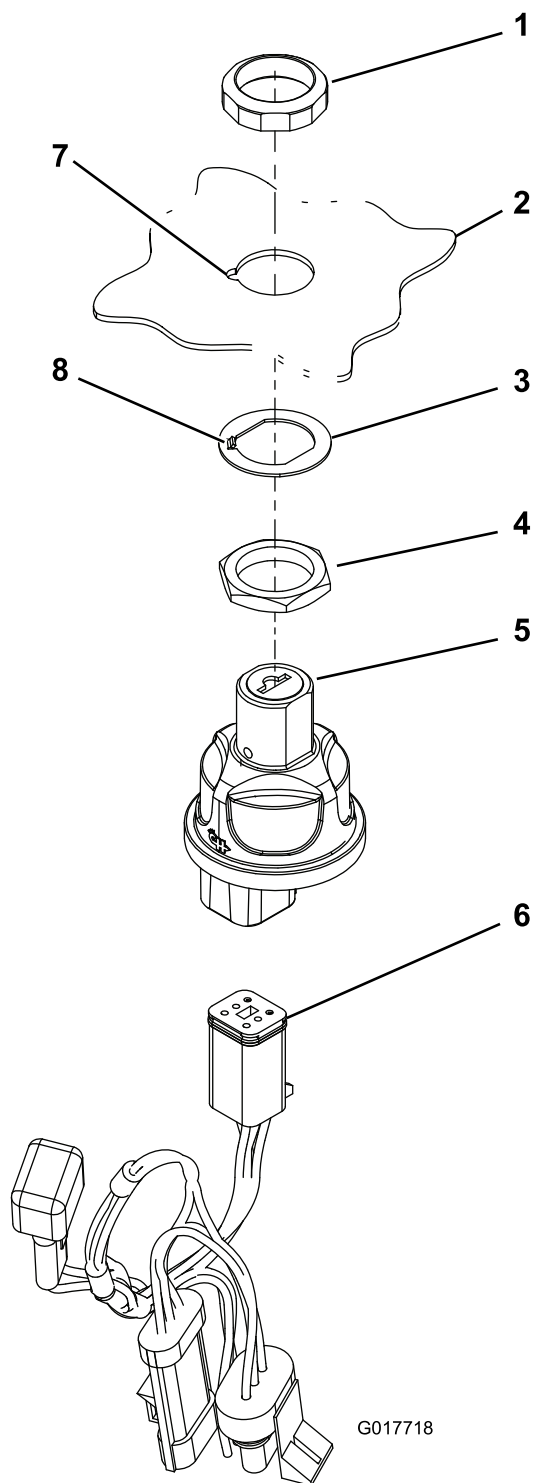

Figure 2
1. Fasteners (5)
8. Install the new ignition switch assembly as shown in Figure 2.
Note: Ensure that you align the tab on the washer with the slot in the control panel (Figure 2).
10. Connect the new ignition switch wiring harness connector to the new ignition switch (Figure 2).
9. Connect the new ignition switch wiring harness (Figure 2) to the connector on the existing wiring harness that was plugged into the old ignition switch.